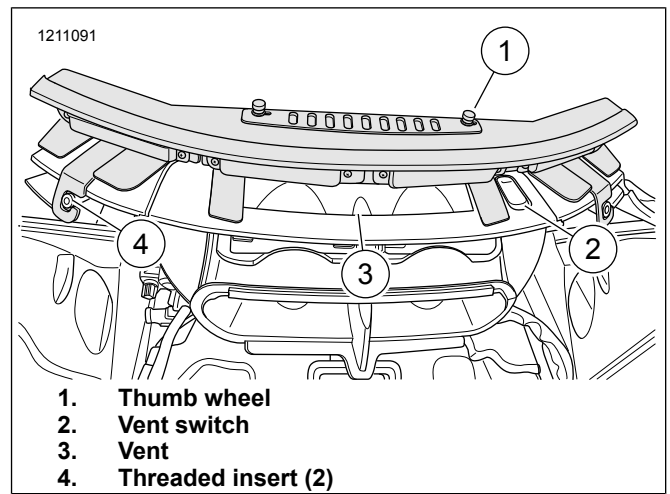

Figure 6. Light Placement
6. See Figure 6. Verify the vent switch (2) is in the open position.
7. Position the light over the vent (3) with the thumb wheels (1) facing up.
8. Align the left and right mounting brackets over the threaded insert (4).